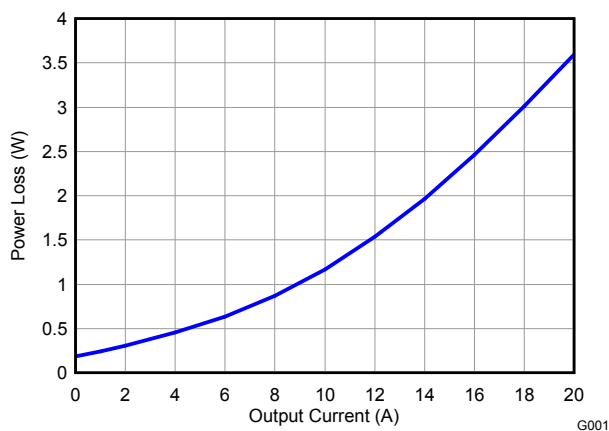
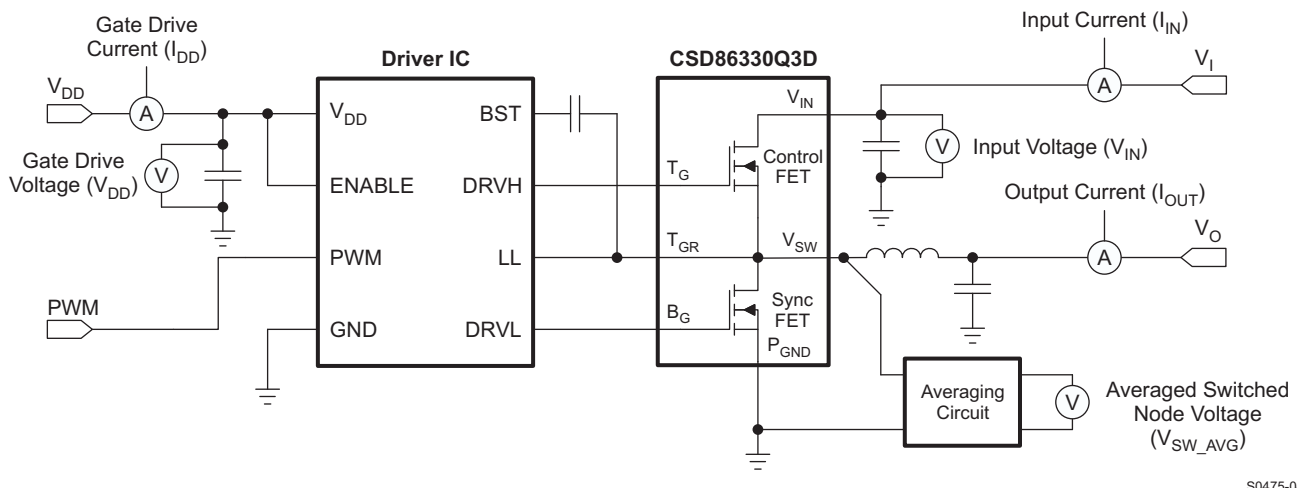

Figure 1. Power Loss vs Output Current
Figure 28. Typical Application
MOSFET centric parameters such as $R_{DS(ON)}$ and Q_{gd} are needed to estimate the loss generated by the devices. In an effort to simplify the design process for engineers, Texas Instruments has provided measured power loss performance curves. Figure 1 plots the power loss of the CSD86330Q3D as a function of load current. This curve is measured by configuring and running the CSD86330Q3D as it would be in the final application (see Figure 28). The measured power loss is the CSD86330Q3D loss and consists of both input conversion loss and gate drive loss. Equation 1 is used to generate the power loss curve.
The power loss curve in Figure 1 is measured at the maximum recommended junction temperatures of 125°C under isothermal test conditions.
- Power Loss at 15A = 2.2W (Figure 1)